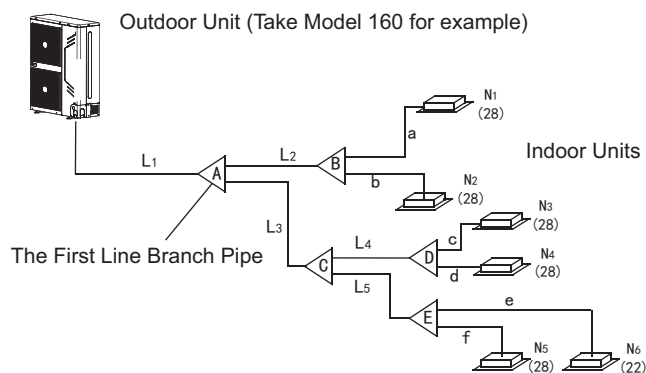

Fig. 4-5
- 2) Example 1: In the Fig.4-5, The downstream inner units of the L2, and its total capacity is $28 \times 2 = 56$, refers to the Table 4.4, the air/liquid side of L2 is: $\Phi 15.9/\Phi 9.5$.